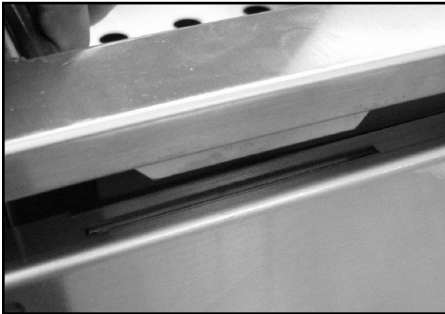

Fig. 10
3. Position tabs on side bracket to fit into slots on the cart (be aware of pinch points)(Fig. 10 -12). When complete, the landing ledge should sit flush on the top of the cart (no gap).